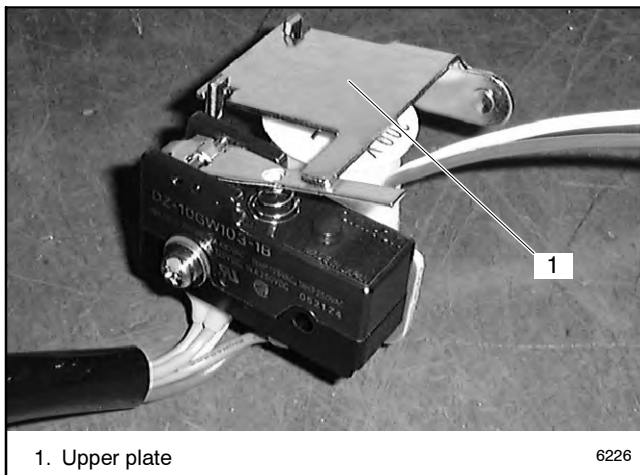

Figure 7-19 Select Coil Assembly
3. Remove the upper plate from the select coil assembly. See Figure 7-19.